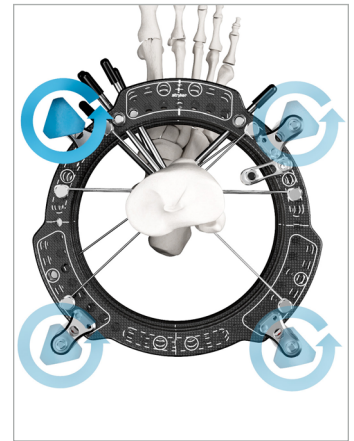
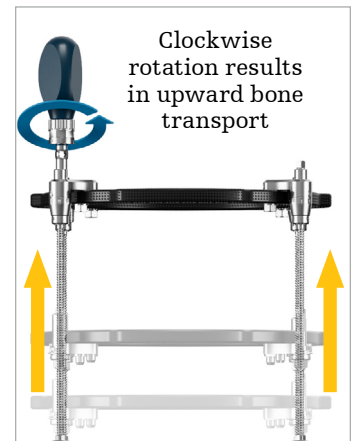

Figure 211
Figure 213
- To drive the moving ring position from proximal to distal, the patient must administer counterclockwise adjustments. **(Figure 211)** To drive the moving ring position from distal to proximal, clockwise adjustments must be made. **(Figure 213)**